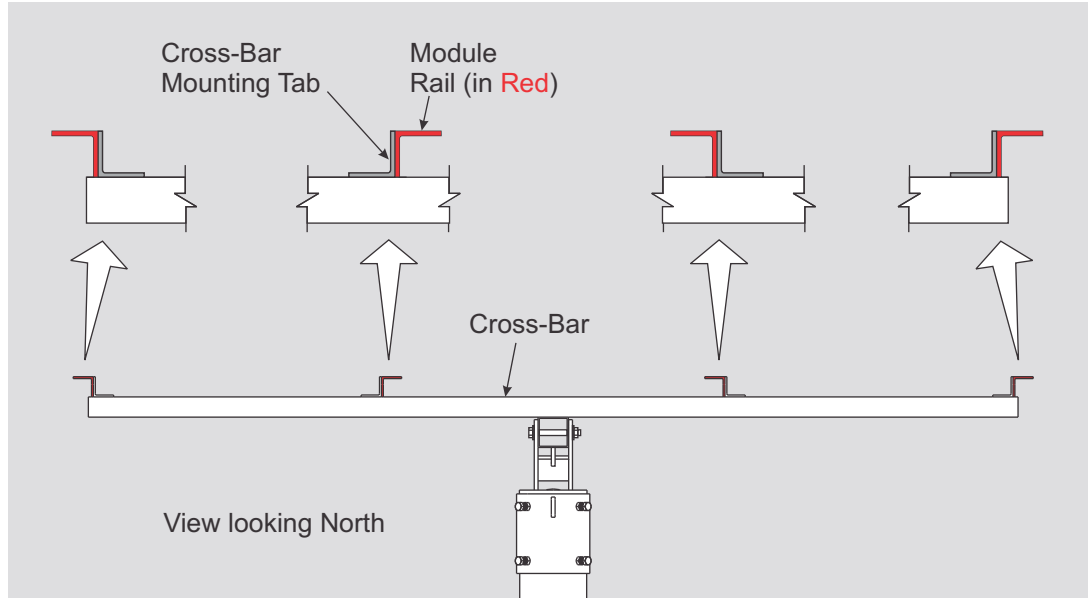
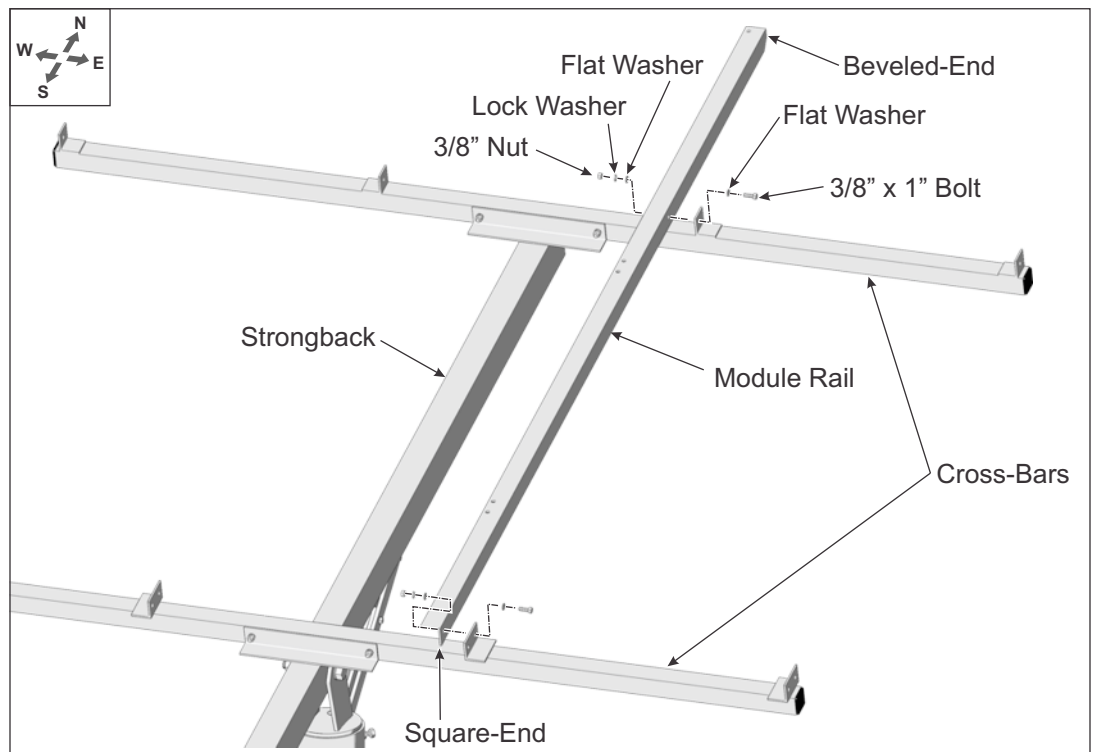
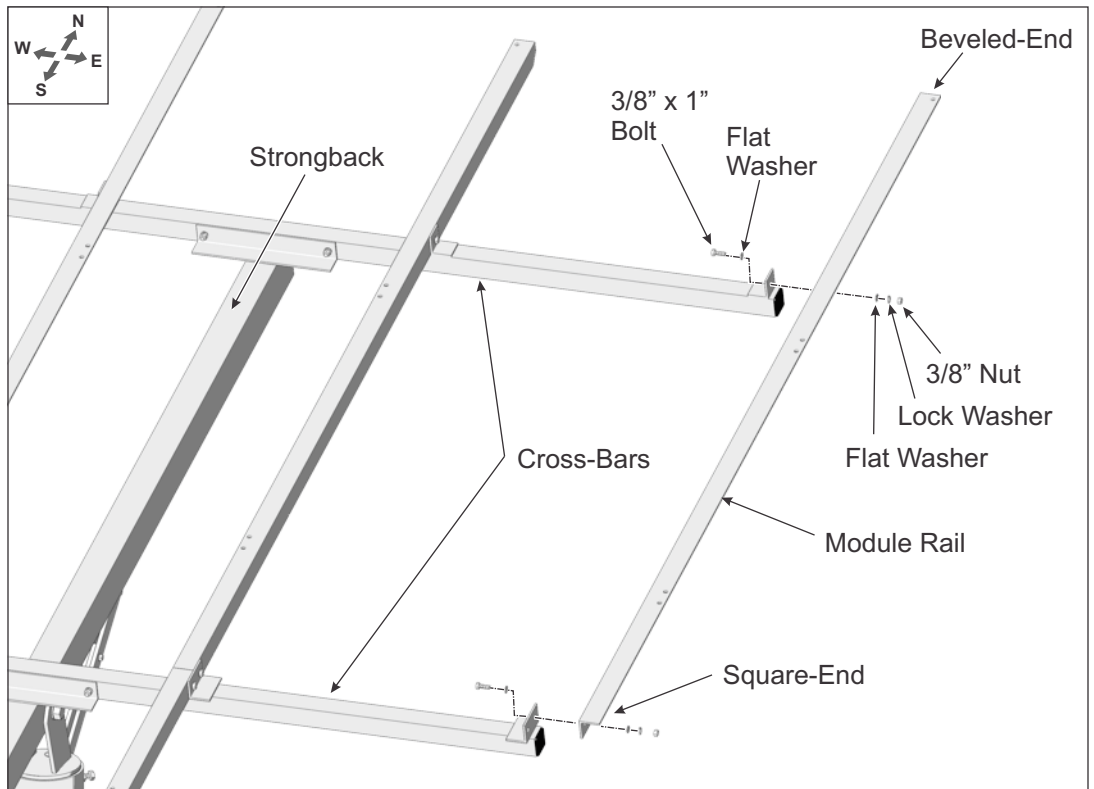

Figure 4-1: Orientation of Module Rails to Cross-Bars
Figure 4-2: Installing the Northern-most Inboard Module Rails to Cross-Bars
Figure 4-4: Installing the Northern-most outboard Module Rails to Cross-Bars
Additionally, Module Rails are installed differently depending on whether they are mounted inboard or on the outer edges of the Cross-Bars. (See Figure 4-1)
- A. Referring to Figure 4-1 for orientation of the inboard Module Rails, position the first section of Module Rail (with its angle cut end positioned north) at the northern most position on the Cross-Bars. Align the Module Rail mounting holes with the holes of the Cross-Bar mounting tabs and secure with 3/8" x 1" bolts and hardware. Finger-tighten for now. (See also Figure 4-2)
- A. Referring to Figure 4-1 for orientation of the outboard Module Rails, position the first section of Module Rail (with its angle cut end positioned north) at the northern most position on the Cross-Bars. Align the Module Rail mounting holes with the holes of the Cross-Bar mounting tabs and secure with 3/8" x 1" bolts and hardware. Finger-tighten for now. (See Figure 4-4)